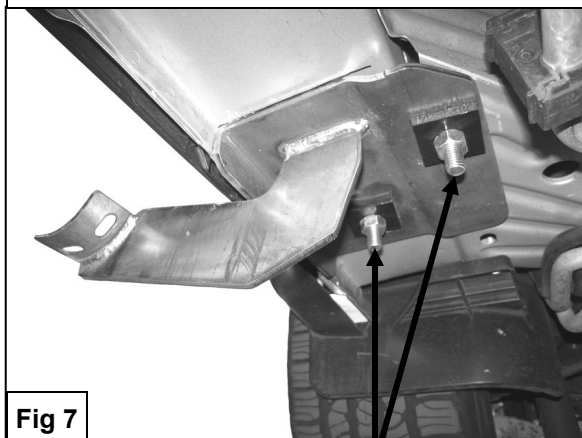

Fig 7
9. Position passenger side Rear Mounting Bracket up to the vehicle and over the already inserted Bolt Plates. Partially hang Mounting Bracket to Bolt Plates using the included (2) M12 Square Washers and (2) M12 Hex Nuts (Figure 7). Hand tighten at this time.